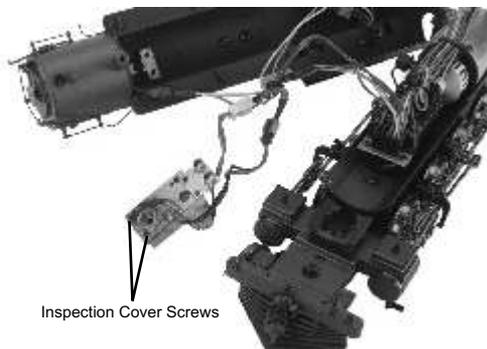

Figure 20
1. Once the boiler has been removed, remove the inspection cover (See figure 20). Inspect the wick; if it is darkly discolored and hard, it should be replaced.